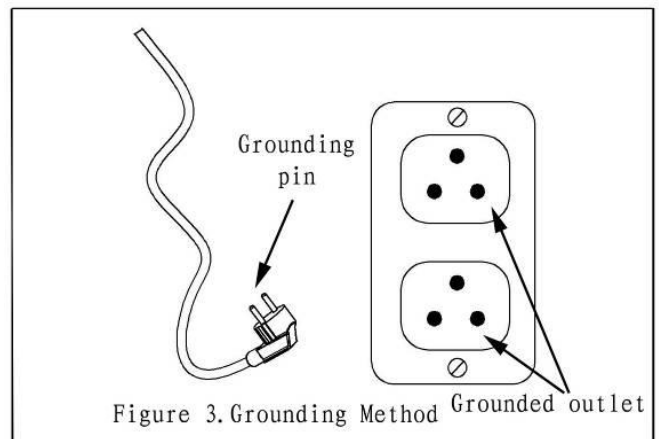

Figure 3:
1. This product is for use on a nominal 230 volt circuit and has a grounding plug that looks like the plug illustrated in Fig.3. Make sure the product is connected to an outlet having the same configuration as the plug. This product must be grounded. In the event of an electrical short circuit, grounding reduces risk of electrical shock by providing an escape wire for electric current. This product is equipped with a cord having a grounding wire with an appropriate grounding wire with an appropriate grounding plug. Plug must be plugged into an outlet that is properly installed and grounded in accordance with all local codes and ordinances.